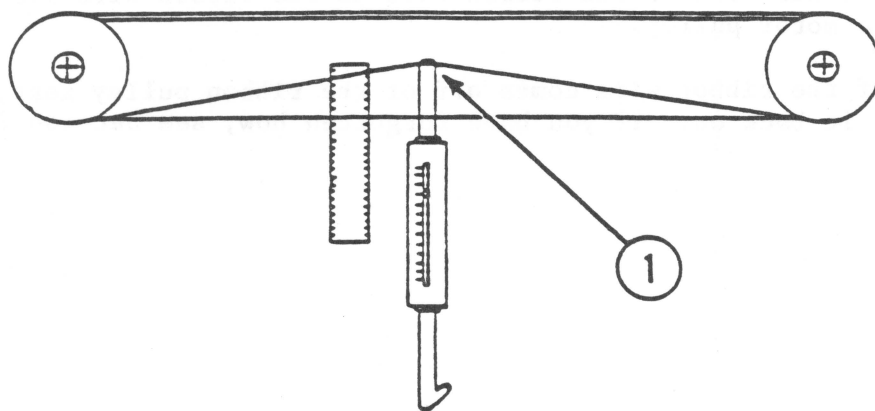

FIGURE 14
21. With the carriage assembly at the far left, push the carrier wire at its center with a tension gauge. (See Figure 14, #1.)